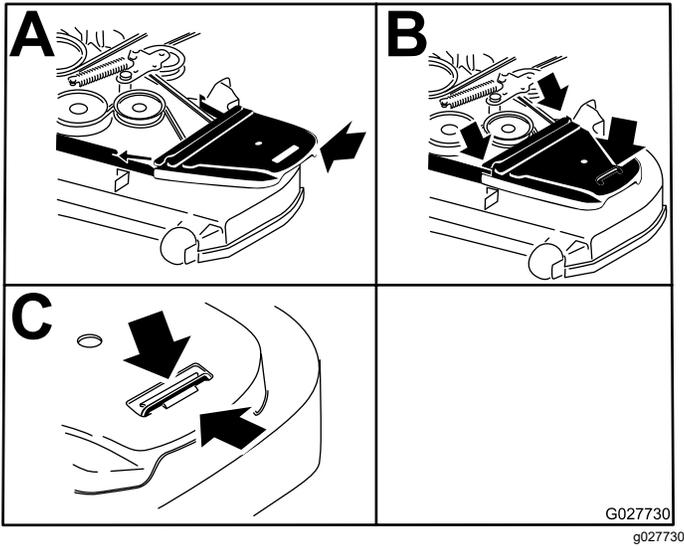

Figure 76
9. Install the belt covers (Figure 76).